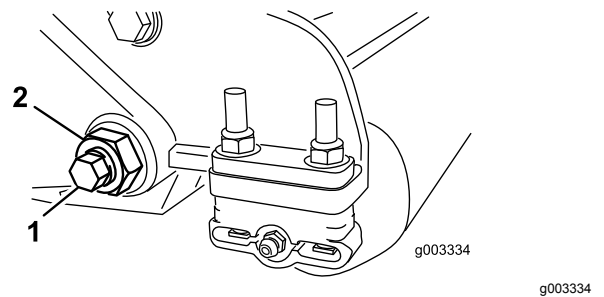

**Figure 31**
- Turn the bedbar-adjuster screws counterclockwise to back the bedknife away from the reel (Figure 31).
- Back out the spring-tension nut until the washer is no longer tensioned against the bedbar (Figure 31).